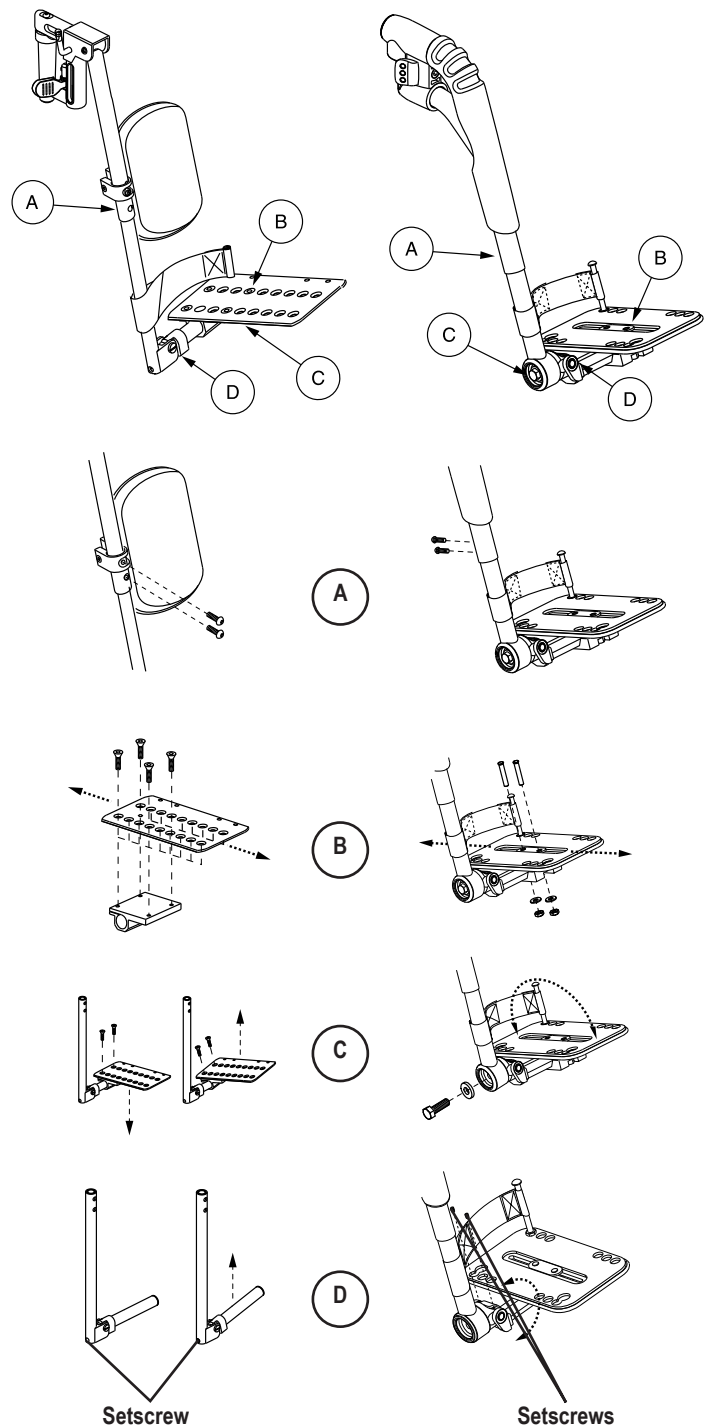

Figure 9. Multi-axis Foot Plate for ELR (Left) and for Swing-away Footrest (Right)
Multi-axis foot plates can be installed on a standard elevating leg rest (ELR) or a swing-away footrest. The multi-axis foot plates have four adjustments: leg rest length (A), position (B), tilt (C), and angle (D). See figure 9.